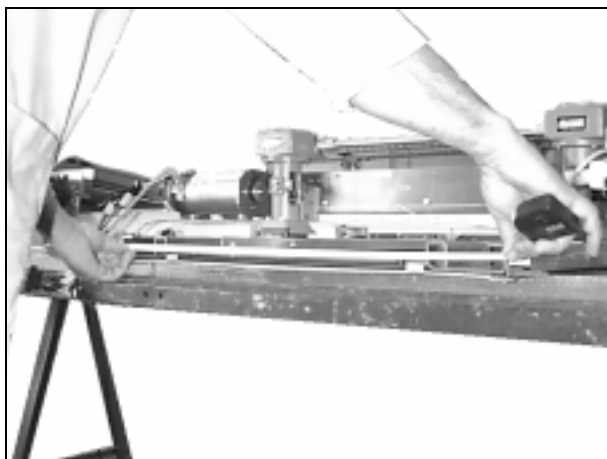

Fig. 12
- Compare the standard width of the new tabletop (682 mm) with the width of the old tabletop by measuring from the inner edge of the left guide to the inner edge of the right guide of the patient tabletop (Fig.12).